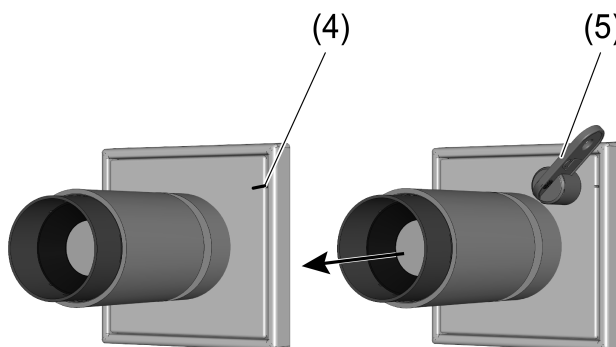

Figure 3: Dismantling a light attachment
- Place the magnet (5) at the level of the marking (4) at the light attachment (Figure 3).